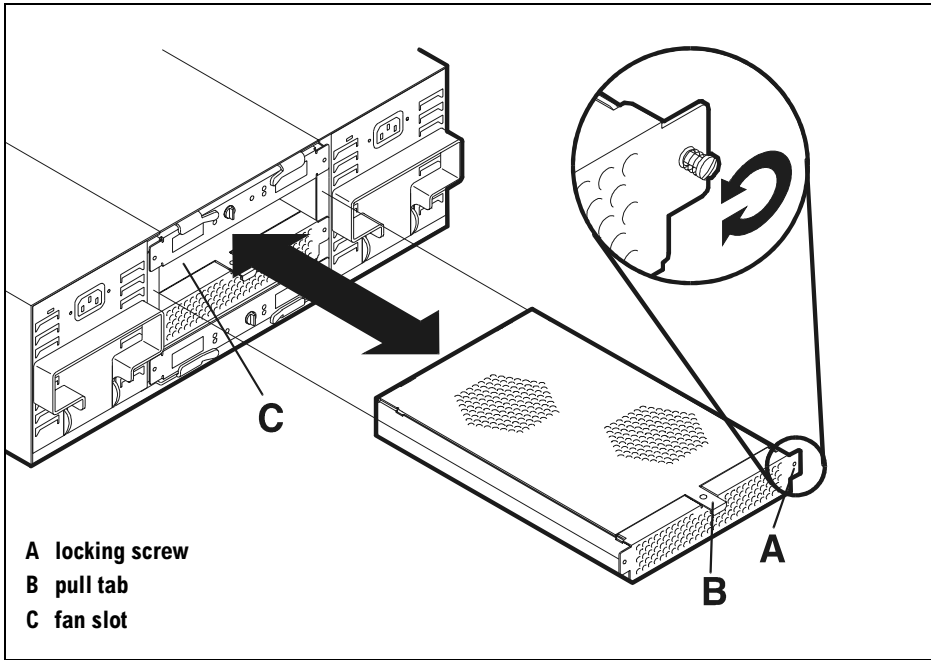

Figure 47 Fan Removal and Replacement
1. Loosen the two locking screws (A in Figure 47) until they clear the chassis. The screws stay with the fan.
2. Pull the fan out of the chassis by the pull tab (B).
3. Insert the replacement fan into the empty slot (C in Figure 47).
5. Tighten the locking screws (A).